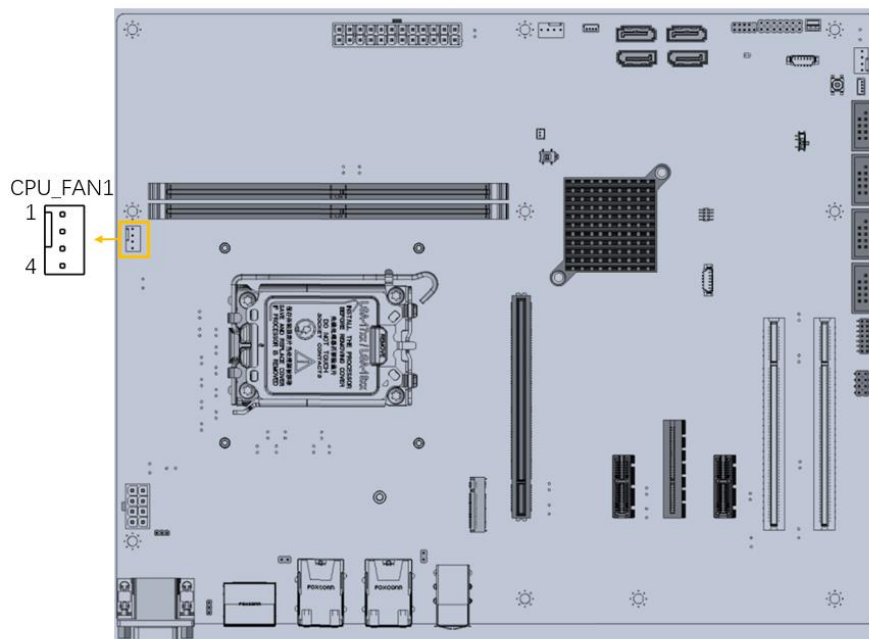

Figure 3-14: CPU Fan Connector Location
- CN Location:** See Figure 3-14